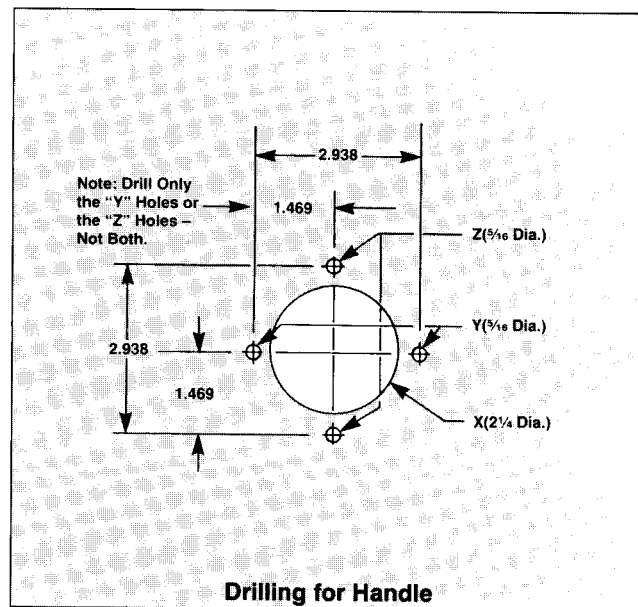

Figure 2a
- Find handle center dimensions **D** and **E** by adding enclosure thickness and cover overhang (**C**₁ and **C**₂) to **A** - $\frac{1}{2}$ and **B** + 3.985. Drill hole **X** ($\frac{1}{4}$ in. dia.) and drill either holes **Y** or **Z** ($\frac{5}{16}$ in. dia.) depending on handle orientation required (Figure 2a).